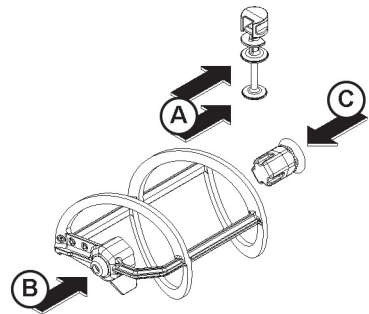

figure 13
7 Dismantle the faucet assembly (see figure 13).
- 3 Assemble the faucet by reversing the disassembly steps (see figure 13)